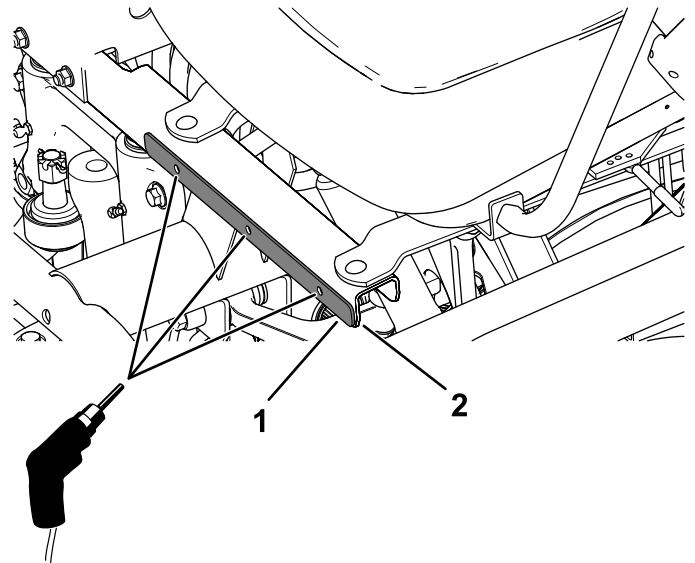

Figure 21
1. Align the fender straps at the bottom edge of the seat base frame, and use the fender straps as a template to mark and drill 3 holes (5/16 inch) on each side of the seat base frame (Figure 21).